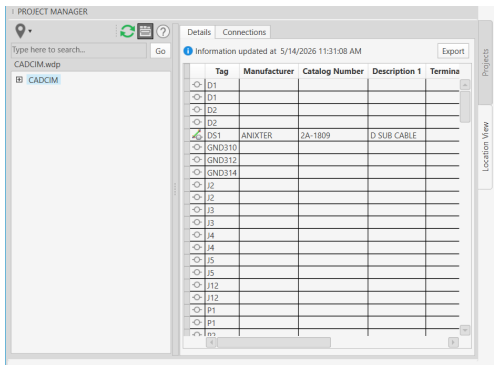

Figure 2-76 Expanded **PROJECT MANAGER**
1. Make sure the **CADCIM** project is activated. Choose the **Location View** tab from the **PROJECT MANAGER**. Next, choose the **CADCIM** node from the **PROJECT MANAGER**. Next, choose the **Display Details and Connections** button; the **PROJECT MANAGER** is expanded with the **Details** tab activated, as shown in Figure 2-76.